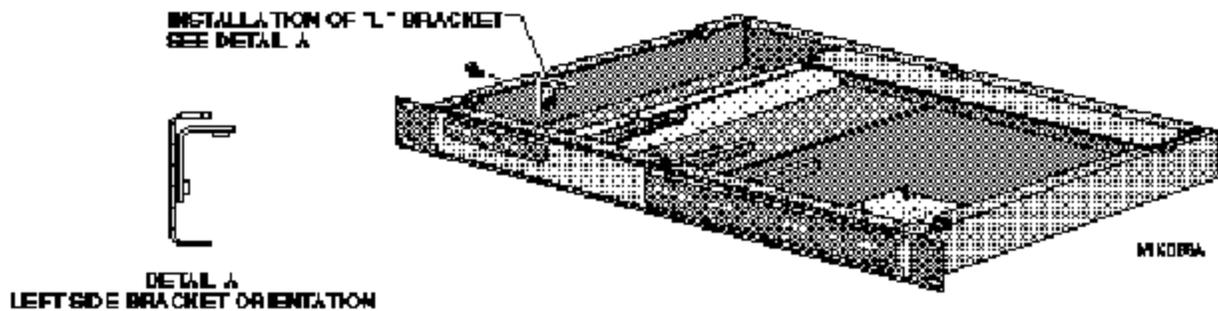

Figure 8. Location of "L" Bracket
5. Locate the "L" shaped bracket in the ACG Option Card Kit. Install this bracket to the left side of the chassis as shown in Detail A and secure using the phillips screw supplied in the kit. (See Figure 8.)